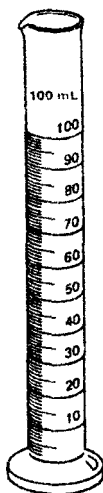

Figure 1-6
1. For approximate measurements of liquids, a graduated cylinder, as shown in Figure 1-6, is generally used. These cylinders are usually graduated in milliliters (mL). Such a graduated cylinder may read from 0 to 10 mL, 0 to 25 mL, 0 to 50 mL, or more, from bottom to top. It may also have a second row of graduations reading from top to bottom. Examine a cylinder for these markings.